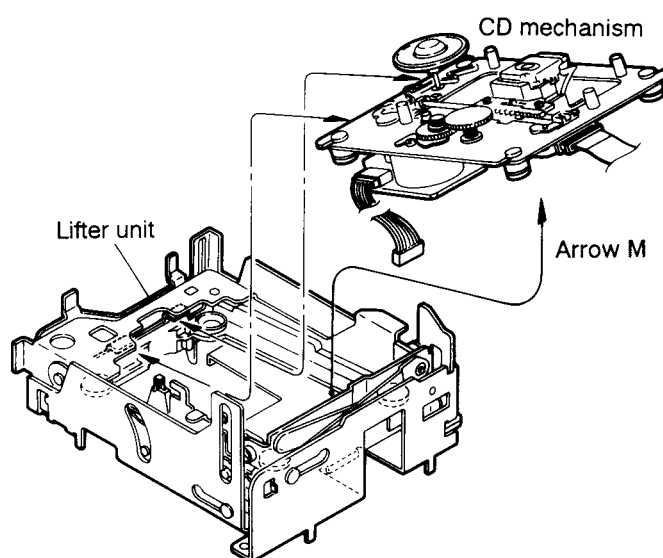

Fig. 5-41
2. By raising the CD mechanism assembly in the arrow direction (M), remove the assembly from the lifter unit (Fig. 5-41).